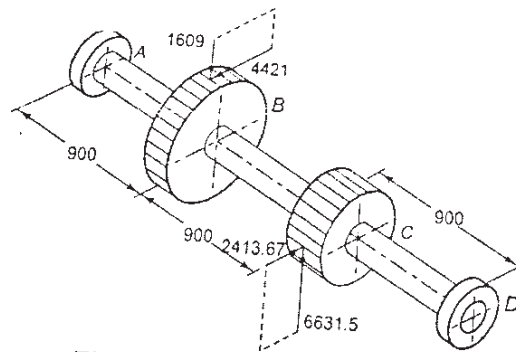

Figure1. Layout of shaft
- b) The layout of an intermediate shaft of a gear box supporting two spur gears B and C is shown in Figure1. The shaft is mounted on two bearings A and D. The pitch circle diameters of gears B and C are 900 and 600 mm respectively. The material of the shaft is steel FeE 580 ($S_{ut} = 770 \text{ N/mm}^2$ and $S_{yt} = 580 \text{ N/mm}^2$). The factors k_b and k_t of ASME code are 1.5 and 2.0 respectively. Determine the diameter of shaft using the ASME code. Assume that the gears are connected to the shaft by means of keys. [12]